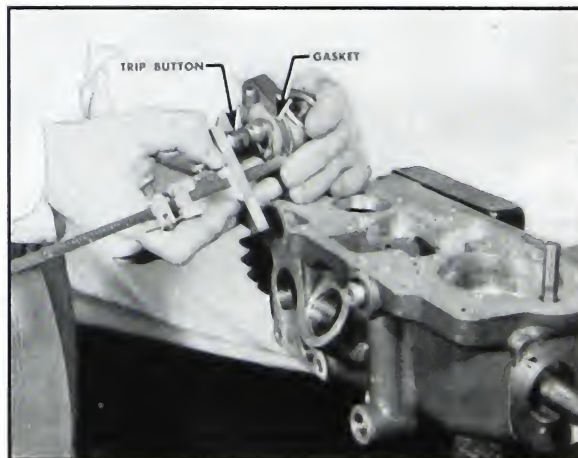

Fig. 5-265. Check stop gasket to button dimension
- c. Check distance from stop gasket, with gasket in place, to the end of the trip button. Fig. 5-265.